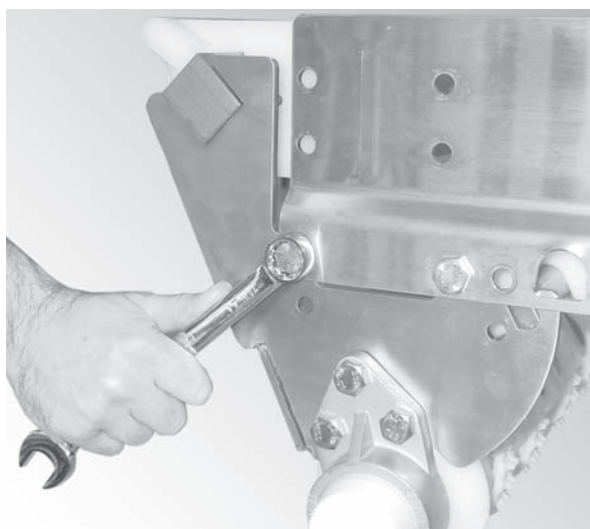

Figure 15
1. Bolt the nose bar drive tail assembly to the conveyor frame (**Figure 15**).